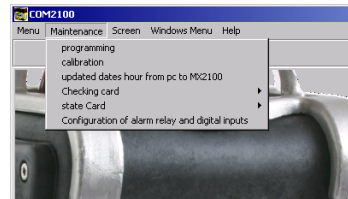

Figure 38: *Maintenance* menu
- From the *Maintenance* menu (Figure 38), select *Programming*
- From the Maintenance menu (Figure 38), select Calibration.
- From the *Maintenance* menu (Figure 38), select the option *Update the BM 25/25W date and time from a PC*.
- From the *Maintenance* menu (Figure 38), select '*Checking card*'.
From the *Maintenance* menu (Figure 38), select 'State card' and follow the same steps as described in the *Monitoring Report menu* (.etx files).